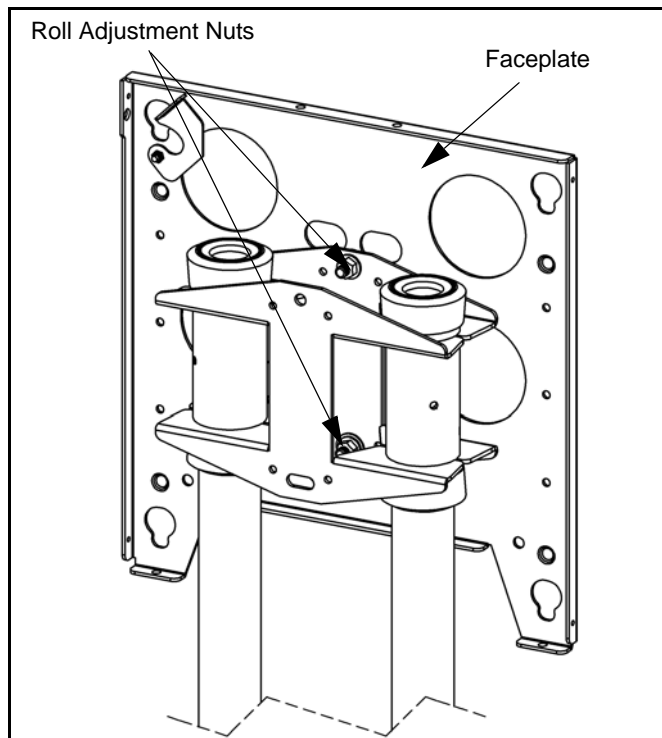

Figure 14: Adjust Roll Tension
1. Locate roll adjustment nuts on back of Faceplate and adjust. Turn Clockwise to increase roll tension, counterclockwise to decrease roll tension. (see figure 14).